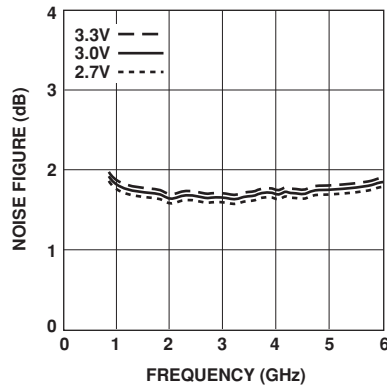

Figure 1. Minimum Noise Figure vs. Frequency and Voltage.
1. Guaranteed specifications are 100% tested in the circuit of Figure 1.